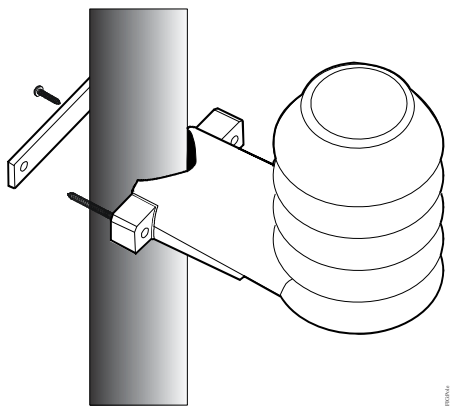

Figure 6: Pole Installation
1. Attach the clamp to the pole with the set screw. See Figure 6.